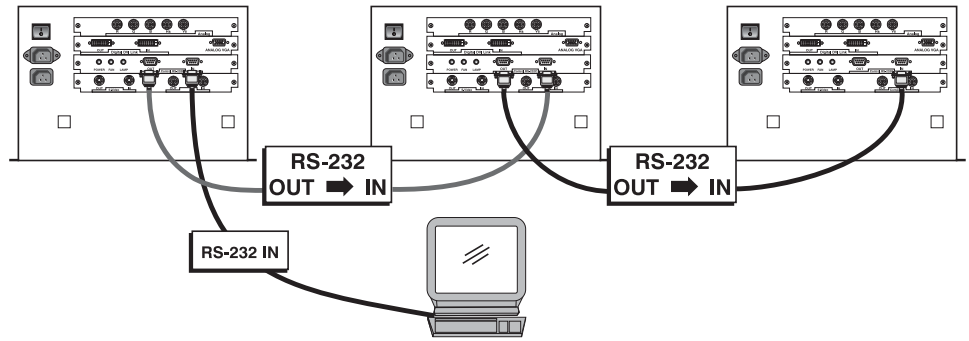
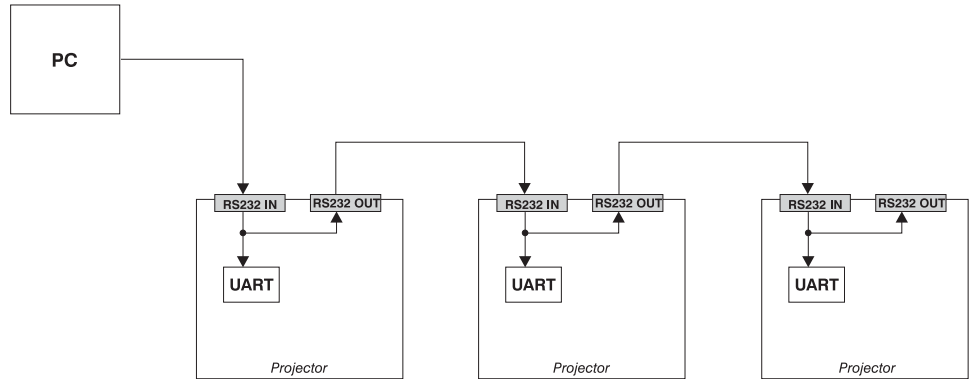
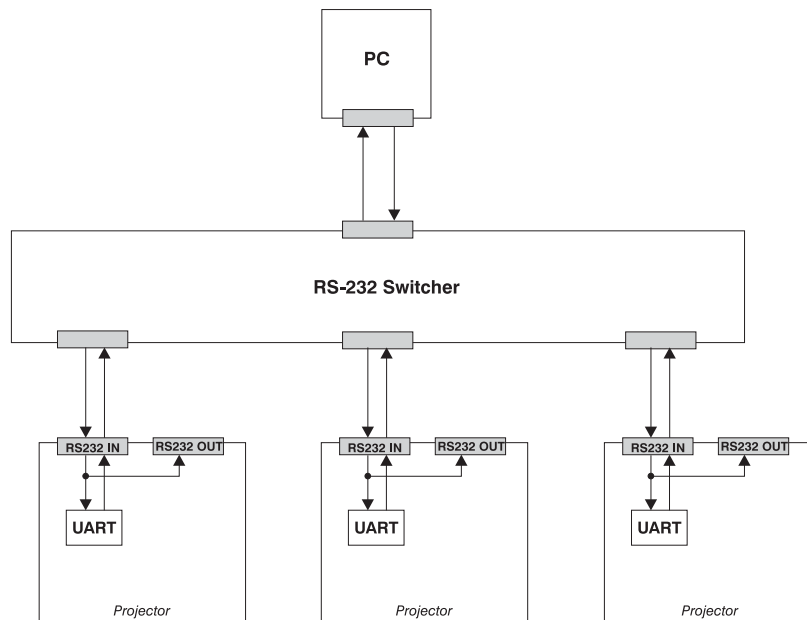

Figure 2.10. Multiple Projector RS-232 Connection
Figure 2.11. Multiple Projector RS232 Communication Schematic
Figure 2.12. Communication Schematic Using RS232 Switcher
Connection: When connecting multiple projectors in a network, use an appropriate serial communication cable (*Appendix D*) and connect the controlling device (PC) to the **RS-232 IN** connector of the first projector in the network. With a second serial communication cable, connect the one end to the **RS-232 OUT** connector of the first projector and the other end to the **RS-232 IN** of the next projector. Continue this pattern of connection with all projectors (Figure 2.10.). The last projector in the network will only have a connection to the **RS-232 IN** connector. Then set the baud rate of all projectors to match that of the controlling device. Refer to *Communication* on page 3-19 for details on setting baud rate.
NOTE: 1) In Figure 2.10 and Figure 2.11, the controlling device can only send commands to the projector. It cannot query or receive any feedback from the projector. If feedback from the projector is required, an RS-232 switcher must be used and connected as shown in Figure 2.12. Call a Christie sales representative for more information.